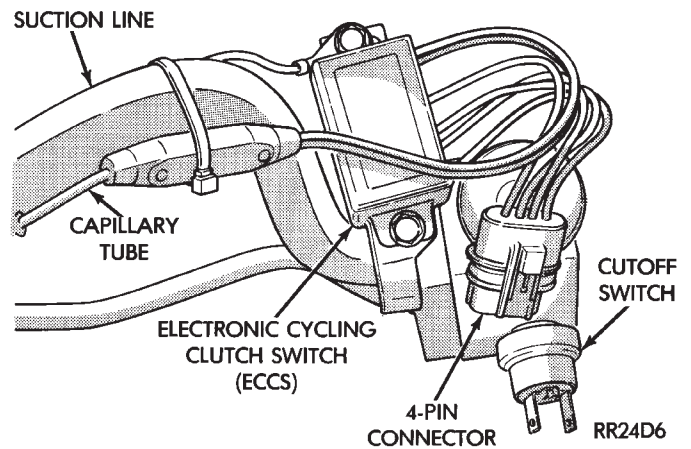

Fig. 11 Remove or Install Electronic Cycling Clutch Switch
- (1) Disconnect the 4 pin connector at the ECCS.
- (2) Remove the tie strap securing the capillary tube splice to the suction line (Fig. 11).